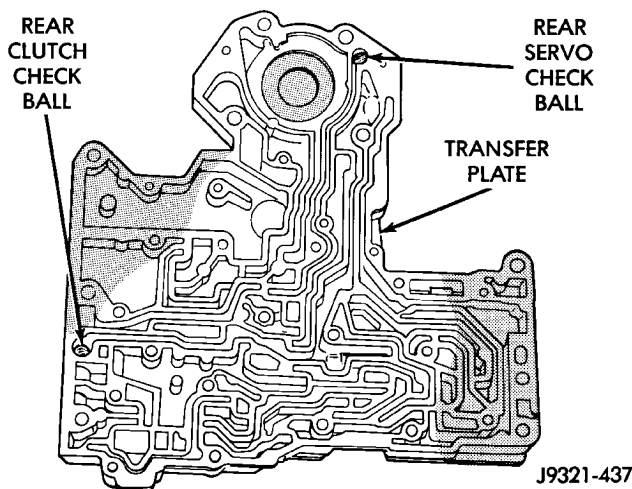

Fig. 76 Rear Clutch And Rear Servo Check Ball Locations
- (1) Install rear clutch and rear servo check balls in transfer plate (Fig. 76).